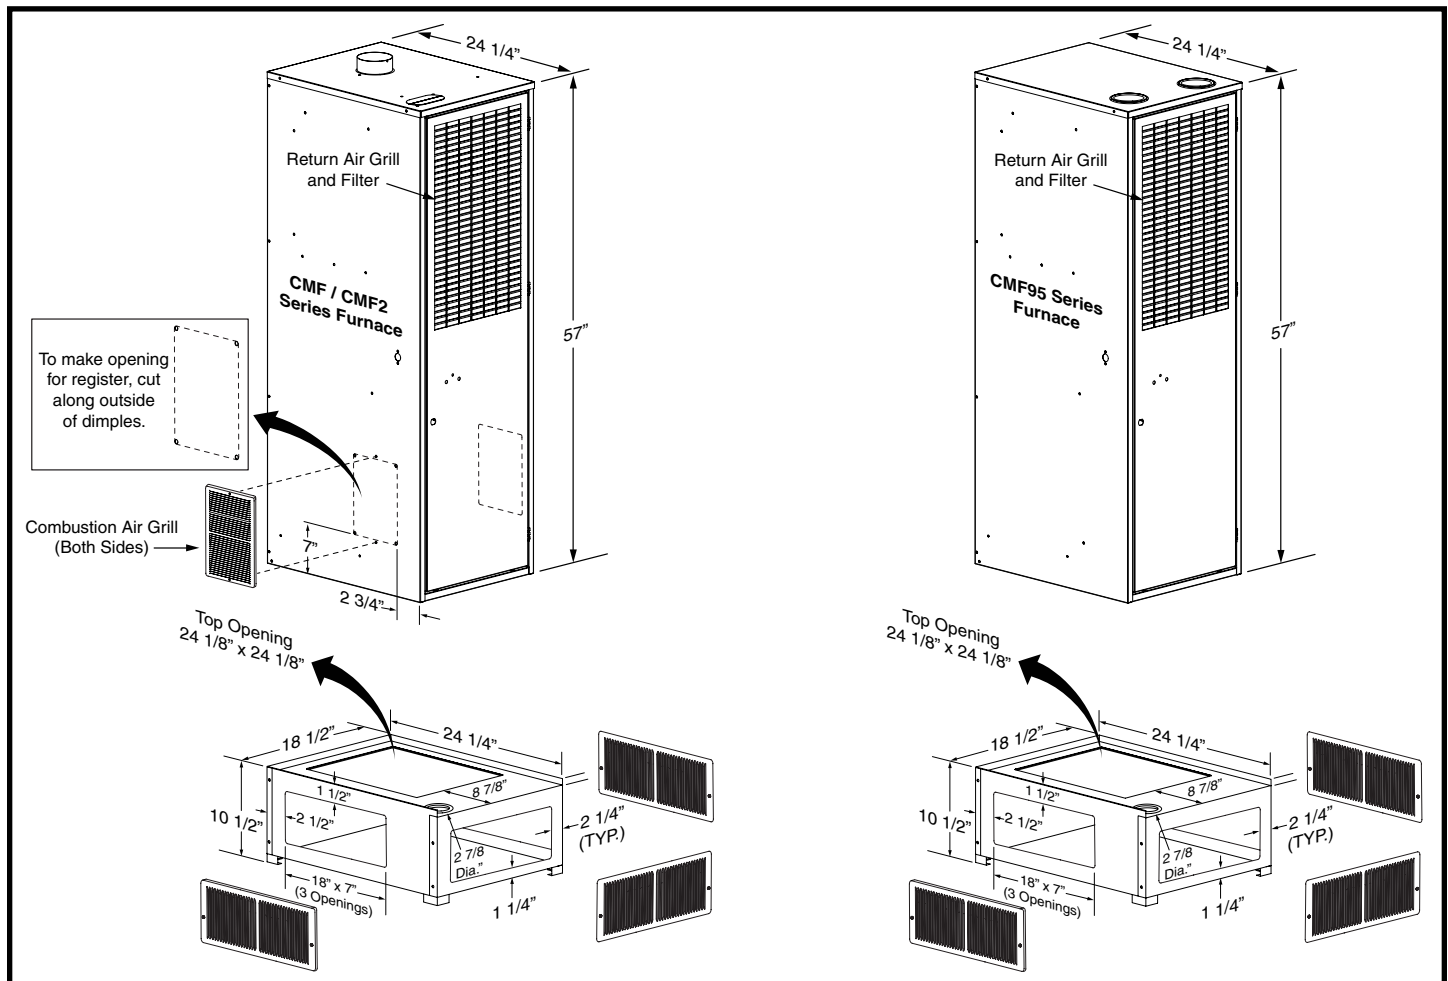

Figure 1. CMF / CMF2 / CMF95 Cottage Base Installation
The combustion air may be drawn directly from the conditioned space using the side panel grilles, as shown in Figure 1. However, some installations require a direct vent system. Refer to the "Combustion and Ventilation Air Requirements" section (in the furnace Installation instructions) for more details.
2. In each side panel, cut out the rectangle created by the outside of the dimples, as shown in Figure 1. The approximate location and size of the rectangular area to be cut out is shown in Figure 1.
2. Set the furnace on the cottage base without damaging the foam gasketing material on the base to as shown in Figure 1. **NOTE:** Make sure that the furnace is seated on the back of the base.